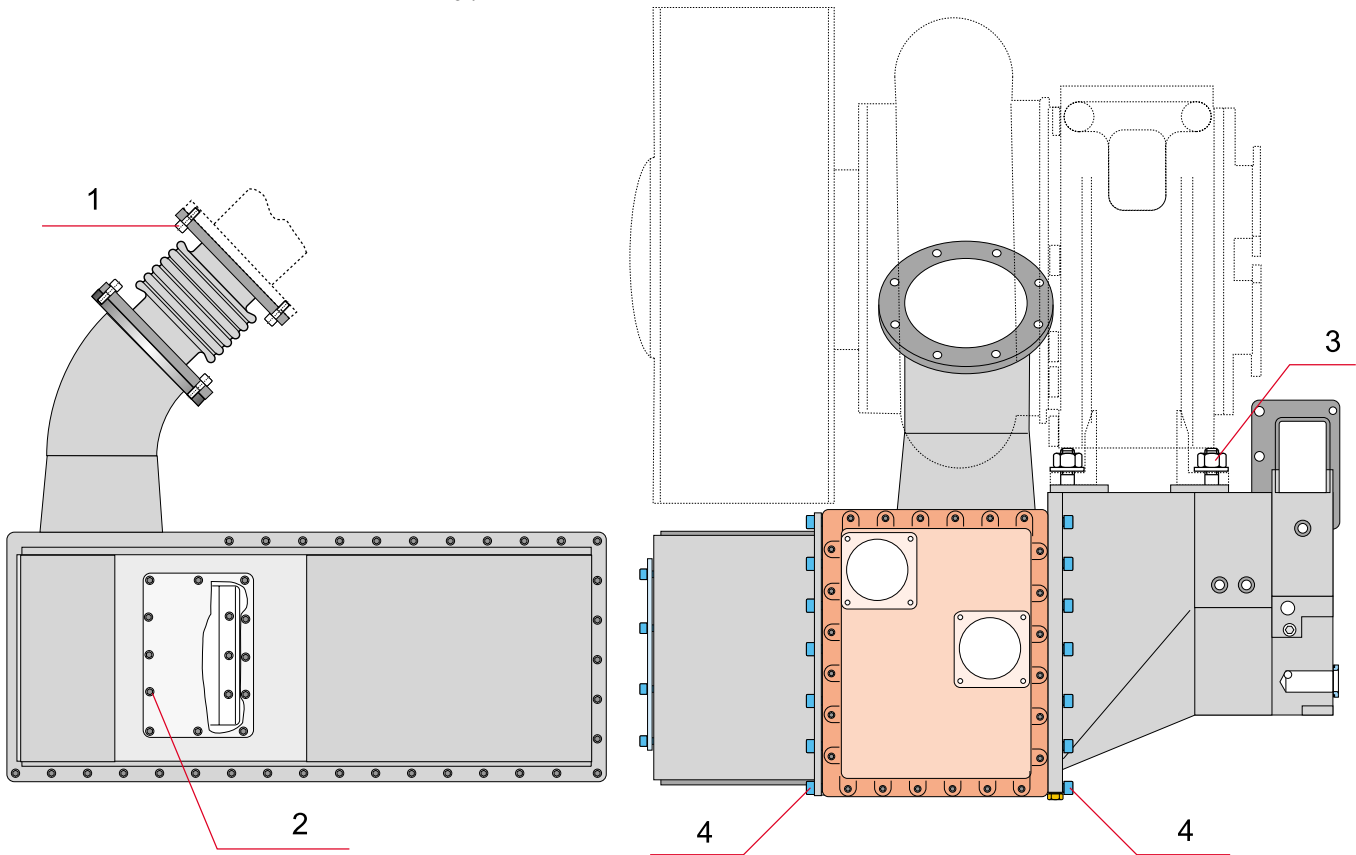
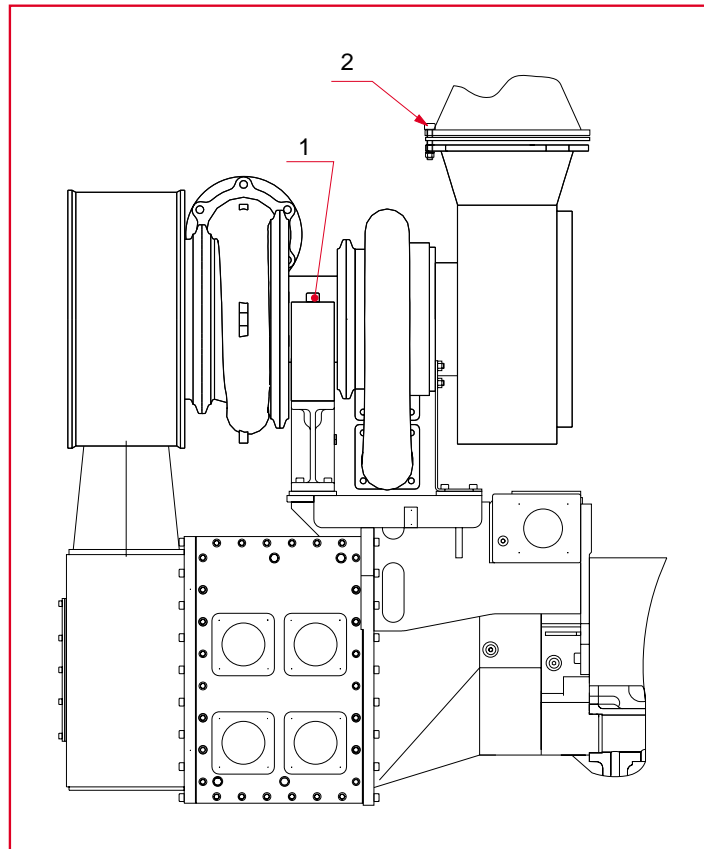

Fig. 07-21
Fig. 07-22
n) Turbocharger for W12V220 see Fig. 07-21, for W18V220 see Fig. 07-22